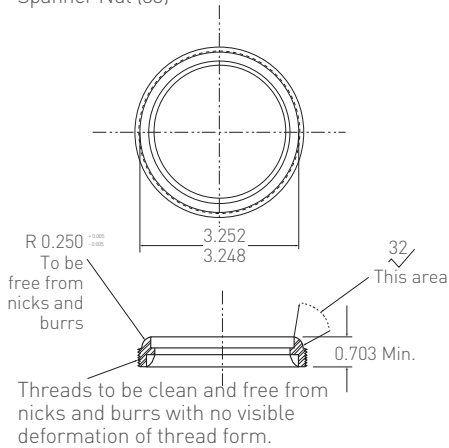

FIGURE 6
The smooth surface on the bottom of the Follower (36) that contacts the Lower Diaphragm (37) must be very flat and free from nicks and burrs. The angled surface that contacts the Spanner Nut (33) must be smooth and free from any mechanical damage. Any defect on either of these two surfaces is cause for scrapping the Follower (36) (Figure 6).